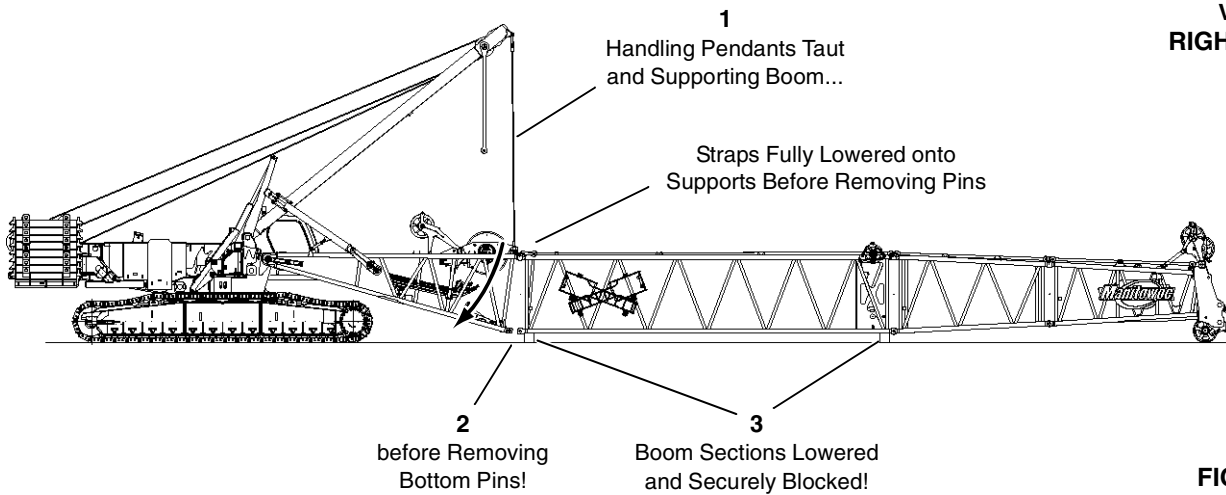

FIGURE 2-5
- Do not remove bottom connecting pins from any boom section when boom is supported by straps as shown in Figure 2-5, View A.
- Do not remove strap connecting pins until straps are fully lowered into supports as shown in Figure 2-5, View C.
- Do not remove bottom connecting pins from any boom section when boom point is resting on ground and handling pendants are slack as shown in Figure 2-5, View B.
- Never work or stand inside boom unless it is lowered and securely blocked as shown in Figure 2-5, View C.